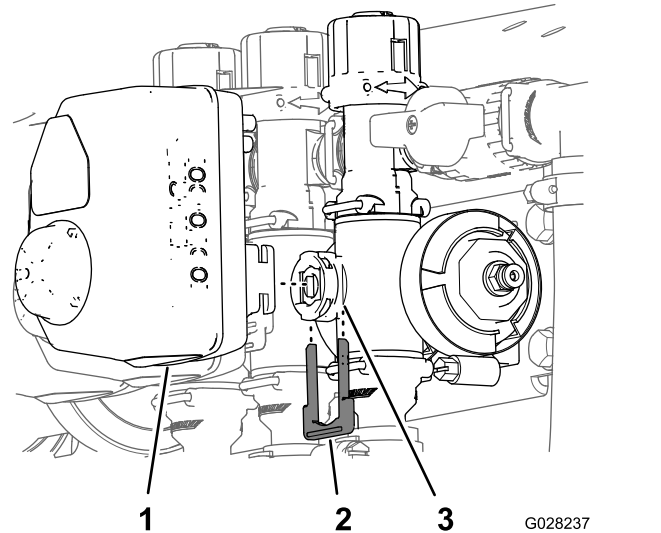

Figure 109
- Remove the retainer that secures the a actuator to the manifold valve for the rate control valve, agitation valve, master-boom valve, or boom-section valve (Figure 109).